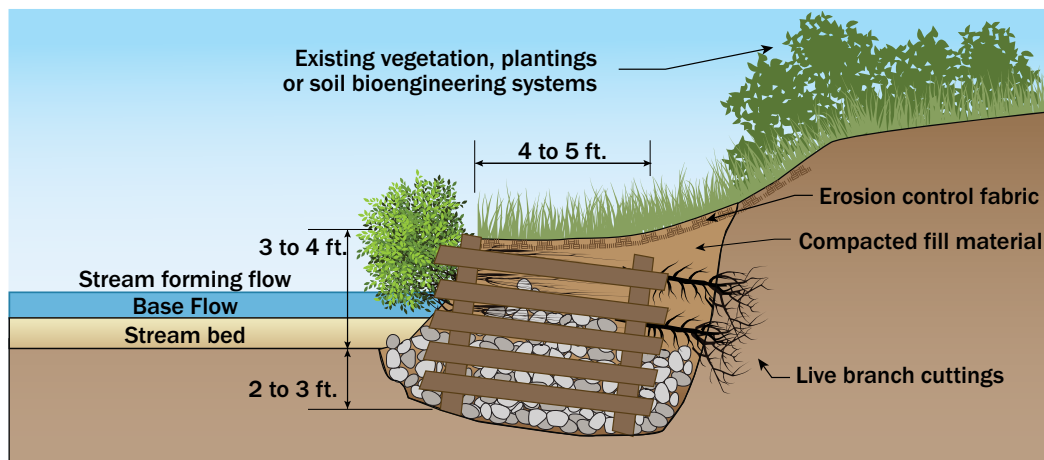

Figure 5.3.19. Live crib walls can provide stability and help control erosion. (Source: NRCS, 1996)
- Use vegetative plantings in small areas where accessibility is an issue to improve aesthetics (Figure 5.3.19).